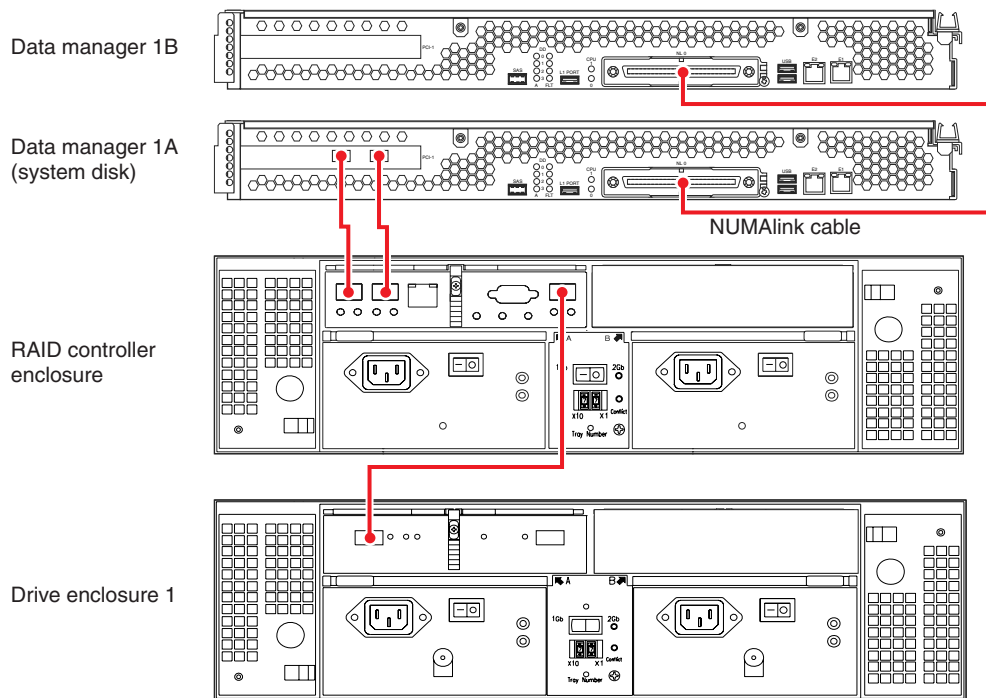

Figure 1-11 Two-Module Data Manager With One Fibre Channel Card a Single-Controller RAID Enclosure and One Drive Enclosure
Use the following steps and Figure 1-11 to cable a two module data manager with one fibre channel card, a single-controller RAID enclosure and one disk expansion enclosure.
1. Connect Data Manager 1A's Fibre Channel PCI card port A (blue label [1A]) to the RAID controller's port 1 (blue label [1A]), see Figure 1-11.